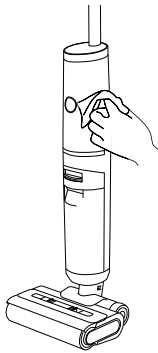

Fig 21
1. Wipe the surface using a slightly damp cloth and mild detergent. Ensure no liquid enters the openings or internal parts of the machine (Fig 21).